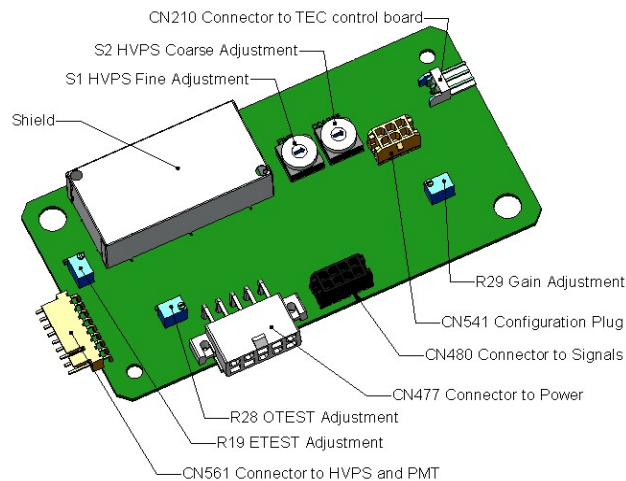

Figure 5-22. Pre-Amplifier Board Layout
4. Locate the following components on the preamplifier board (Figure 5-22):